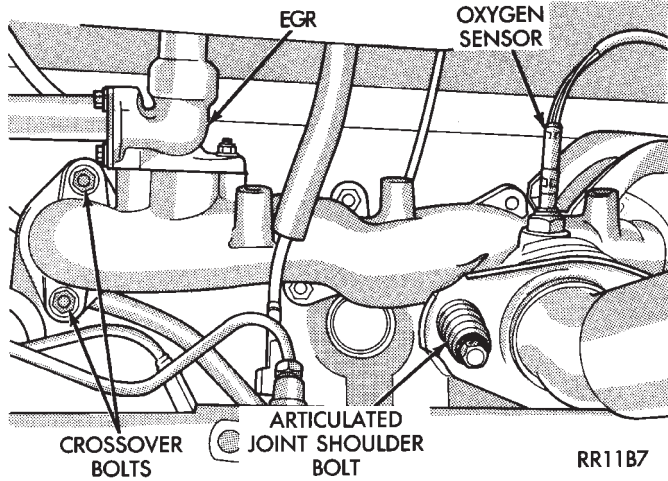
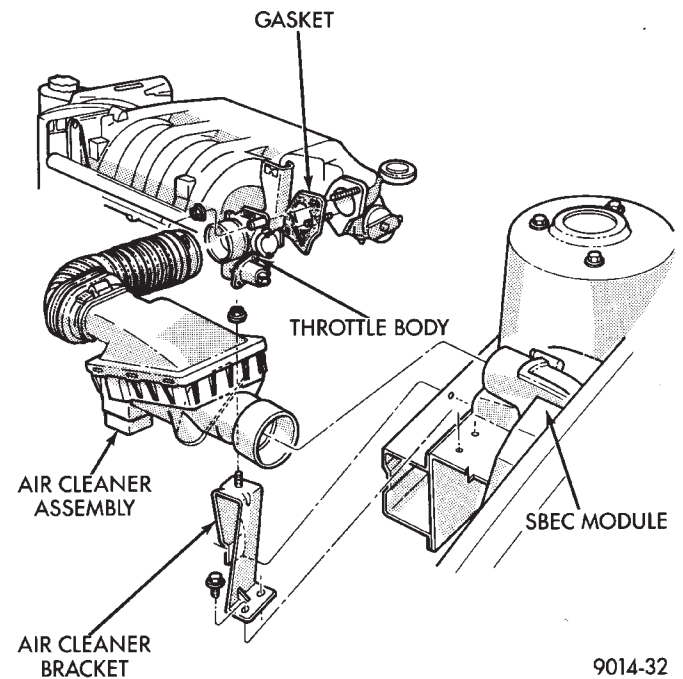

Fig. 18 Separate Articulated Joint, Disconnect Oxygen Sensor Wire
Fig. 2 Throttle Body Assembly 3.3L
- (1) Raise vehicle and disconnect exhaust pipe from rear (cowl side) exhaust manifold at articulated joint.
- (2) Disconnect Oxygen Sensor lead wire at the rear exhaust manifold (Fig. 18).
- (1) Install rear exhaust manifold and tighten attaching nuts to 20 N•m (175 in. lbs.).
- (2) Attach exhaust pipe to exhaust manifold and tighten shoulder bolt to 28 N•m (250 in. lbs.)
- (3) Attach crossover pipe to exhaust manifold and tighten bolt to 69 N•m (51 ft. lbs.)
- (4) Connect heated oxygen sensor lead (Fig. 18).
- (5) Install front exhaust manifold and attach exhaust crossover.
- (6) Install front manifold heat shield and tighten attaching screws to 15 N•m (130 in. lbs.) (Fig. 2).
(3) Remove air cleaner to throttle body hose assembly (Fig. 2).